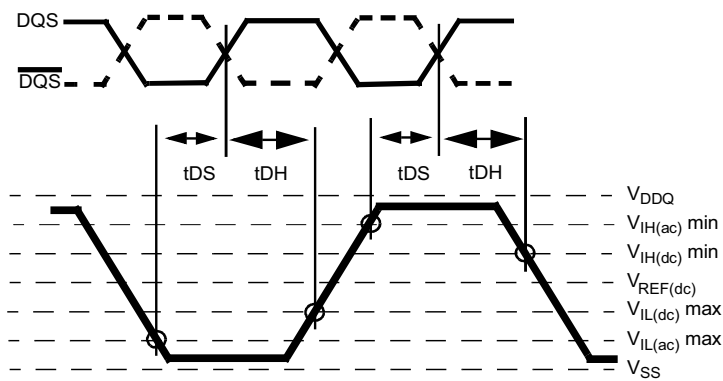

FIGURE 4
- 22) Input waveform timing is referenced from the input signal crossing at the $V_{IH,AC}$ level for a rising signal and $V_{IL,AC}$ for a falling signal applied to the device under test. See **Figure 4**.
- 24) Input waveform timing is referenced from the input signal crossing at the $V_{IL,DC}$ level for a rising signal and $V_{IH,DC}$ for a falling signal applied to the device under test. See **Figure 4**.